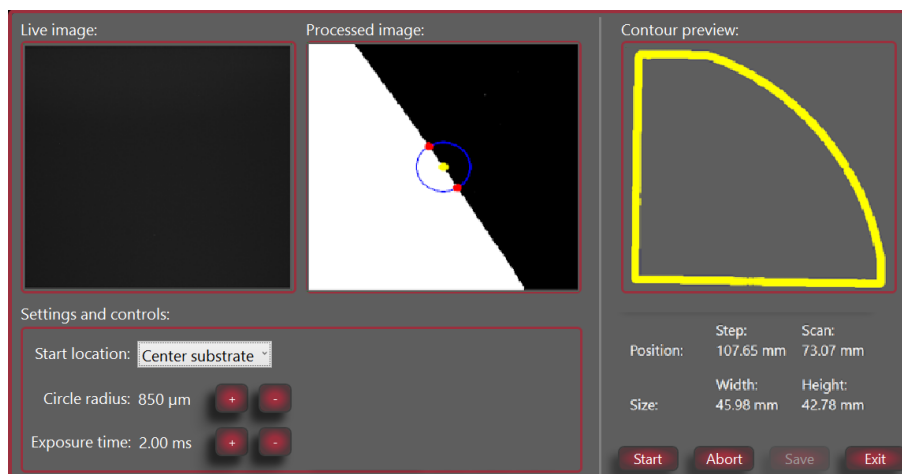

Figure 3-31 Substrate including contour scan ready
12. Wait for the contour scan to finish, see **Figure 3-31 on the facing page**.